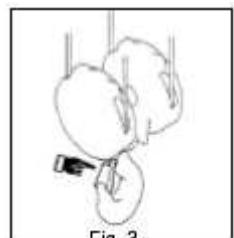

Fig. 3
- inform the manufacturer of any anomalies. Check the functioning of the closing and opening movements of the safety latch moving it manually and with great attention (using appropriate personal protective equipment such as gloves etc...) to avoid the risk of being crushed (fig. 3).